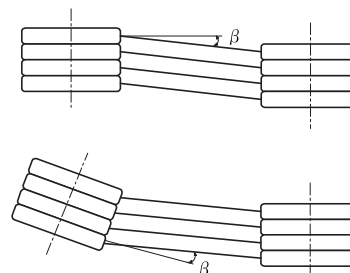

Fig. 11
- Eccentricity of parallelism between two pulleys shall be less than 20'. (Fig. 11)